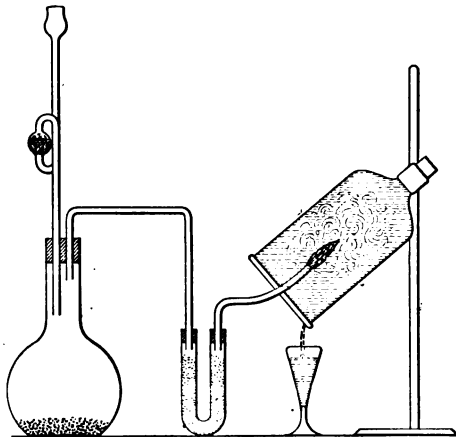

Fig. 8.
3. Allow the hydrogen to pass for a full minute, and then hold a bell-jar over the tip (Fig. 8). Note any change.